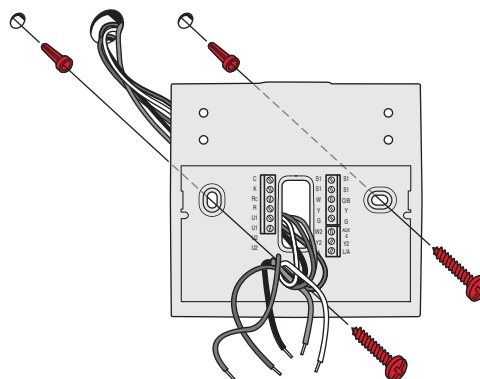

Fig. 11. Mounting wallplate.
5. Position the wallplate over the holes, pulling wires through the wiring opening. See Fig. 11.